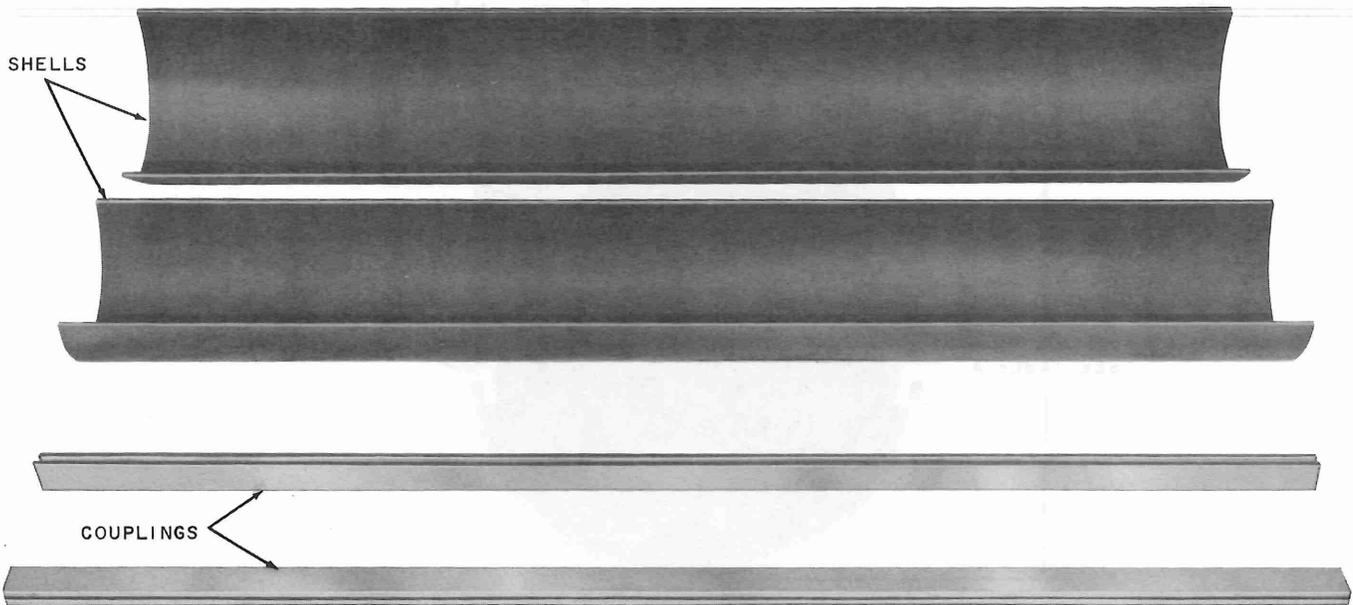

Fig. 2 — Disassembled C Sleeve Liner
3.01 Disassemble the C Sleeve Liner (Fig. 2).